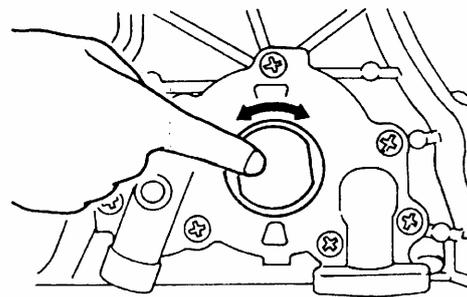

FIG. 5-15
- 3) As FIG. 5-15, install needle pulley of oil pump and cycloid pulley to synchronous belt cover.